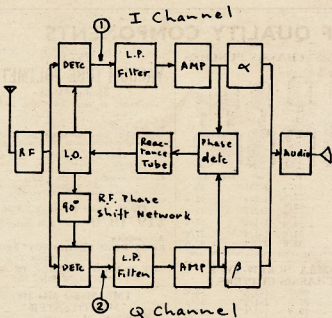
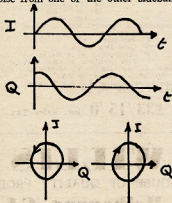
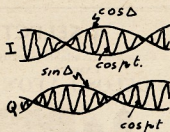
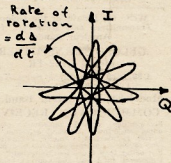

Fig. 6.
Fig. 7
Fig. 8.
Fig. 9.
Secondly, the phase relationship between our local oscillator and the input signal is very important. If both are in phase we obtain maximum output of signal, but when they are 90° out of phase then we have zero output. To overcome this we employ two such receivers, as in Fig. 6. The local oscillator feeds directly into the I detector and into the Q detector through a 90° phase shift network.
Because of the 90° radio frequency phase shift, these two audio signals at (1) and (2) in Fig. 6 are 90° out of phase. If then, these outputs are connected to the X and Y plates of an oscilloscope, the resultant pattern displayed is a circle as in Fig. 7. The direction of rotation of the circle changes if the incoming signal's frequency is changed from below the local oscillator frequency to the above.
We have two signals whose amplitudes are dependent on delta, the phase difference between the input signal and the local oscillator. Should there be a change in frequency, viz. delta is changing linearly with time, then the I and Q channel signals are as in Fig. 8. The two envelopes are 90° out of phase and by displaying points (1) and (2) (Fig. 6) on the oscilloscope as before, the resultant pattern is as in Fig. 9. When delta is constant, the pattern simplifies to a straight line inclined to the vertical (or horizontal) axis at an angle delta. Consequently when the signal is correctly locked on, delta is zero and our pattern is a vertical (or horizontal) line. (Fig. 10).
It may be mentioned here that the alpha and beta networks added in Fig. 6 will be discussed later. They form a 90° phase shift network to suppress noise from one or the other sidebands.